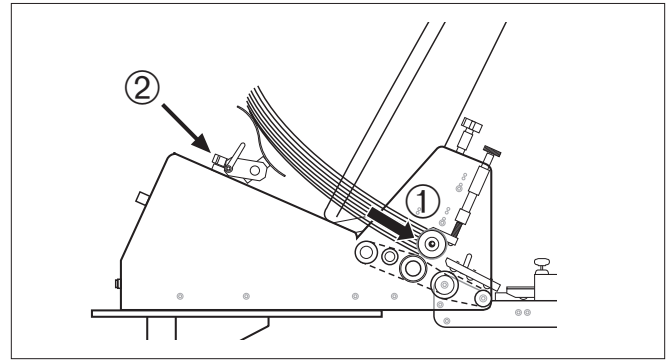

Figure 11. Position Envelopes Prior to Loosening Back Wedge
2. Place the shingled envelopes in the hopper so that the edges rest against the curvature of the gate assembly (Figure 11, ①).
3. Turn the back wedge wing-nut adjustment counterclockwise to loosen the wedge (Figure 11, ②).